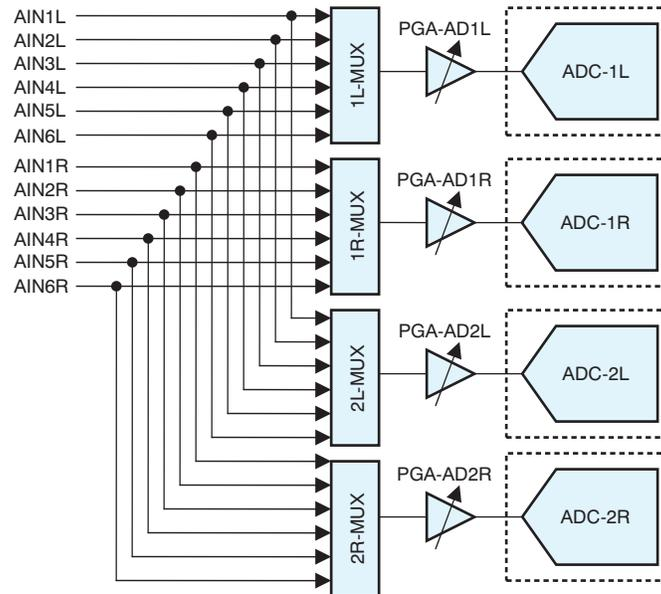

Figure 28. Analog Inputs
The PCM5310 includes a four-channel analog-to-digital converter (ADC) with a programmable gain amplifier (PGA) and six stereo analog inputs with a $2\text{-}V_{\text{RMS}}$ input. Pins AIN1L/1R to AIN6L/6R are connected to the ADC left (L) or right (R) channel through the analog multiplexer (mux) and PGA, as shown in Figure 28. If the analog input voltage level is less than $2\text{-}V_{\text{RMS}}$, it can be amplified by using the PGA. The gain level can be set to 9 dB, 6 dB, or 3 dB. The descriptions for the analog input registers are shown in Table 1.